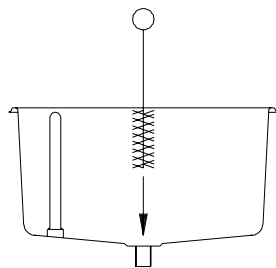

Figure 7-10 Brush hopper and mix feed port
5. Thoroughly brush the hopper and mix feed port to the cylinder (figure 7-10)